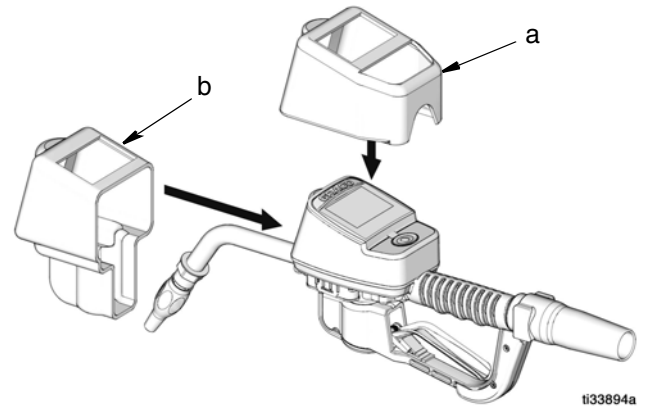

FIG. 6
1. Install the bezel guard (a) over the meter bezel as shown in FIG. 6.
2. Then install the housing guard (b) over the nozzle/extension and onto the meter and bezel guard (a) as shown in FIG. 6.